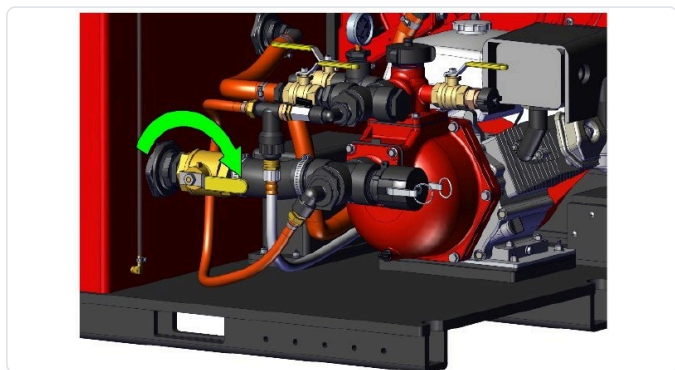

Figure 5. 2" Tank to Pump valve set to tank
- a. Set the 2" Tank to Pump valve to pull water from the tank (Figure 5).